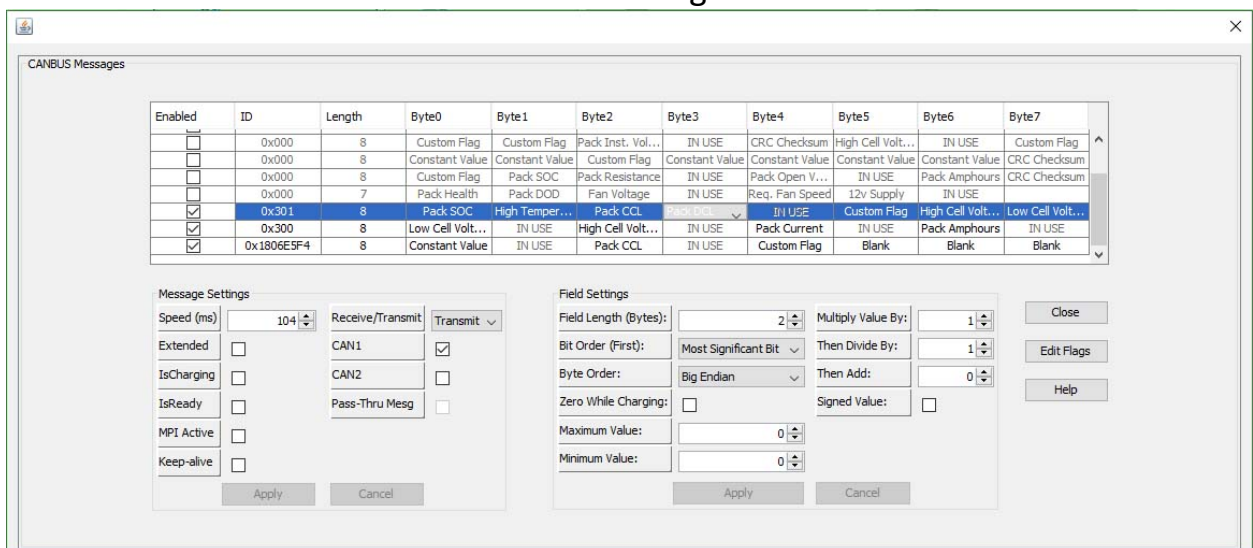

Fig. 29
12. Make sure that the Message and Field Settings for **PACK DCL** are the same as in (Fig 29).